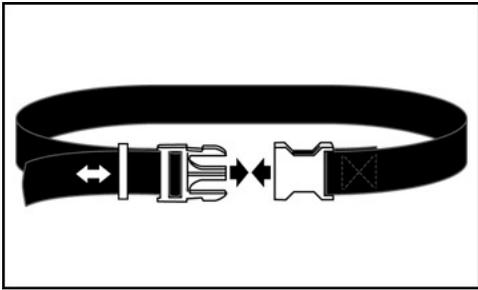

Fig. 6
3. Place the belt around the waist and adjust for size and comfort. (Fig. 6)